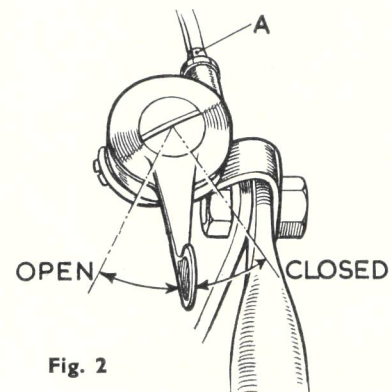
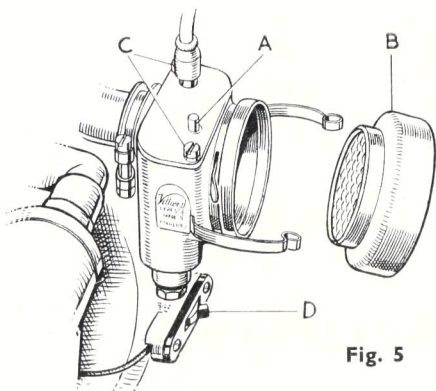
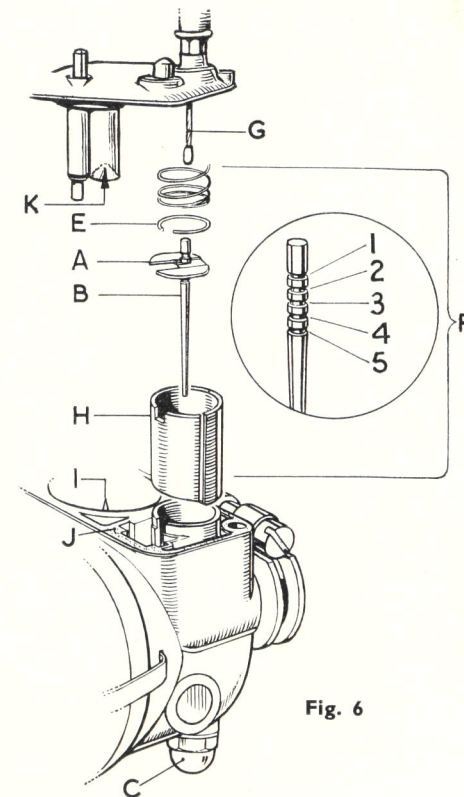
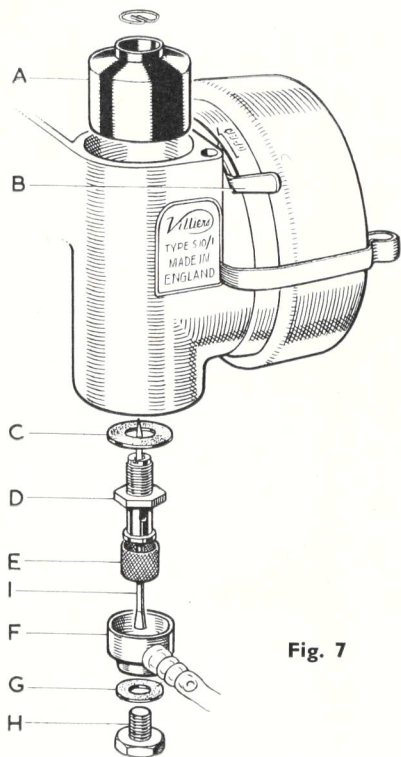

Fig. 2
Fig. 5
Fig. 6
Fig. 7
1. Switch on engine at (D Fig. 5).
2. Ensure that the petrol tank and engine oil sump have been filled with the correct grade of their respective fuels as referred to on page 19, and that the air filter (B, Fig. 5) is oil wetted. See air filter page 28.
4. Open throttle lever (Fig. 2) approximately to the halfway position. Close choke by depressing choke lever (B, Fig. 7). Only in cold conditions may it be necessary to depress the carburettor tickler (A, Fig. 5).
7. While the engine is warming up, gradually lift choke lever (B, Fig. 7) until fully open. Leave in this position for working and for starting while the engine is warm.
Switch off engine at (D, Fig. 5).
2. Petrol supply line or fuel filter (E, Fig. 7) blocked or water in the fuel.
4. Air Filter (B, Fig. 5) blocked by dirt or grass cuttings. (See Air Filter, page 28.)
Switch on engine (D, Fig. 5) and with high tension lead attached hold the plug against one of the cylinder head bolts and turn engine over by the recoil starter. If the plug fails to spark, clean the plug. Should the
The carburetter setting is normal when the groove plate (A, Fig. 6) is in notch No. 2 of the taper needle (B, Fig. 6). The mixture will be enriched by using notch No. 3, or weakened by using notch No. 1. A finer setting can be achieved by turning the groove plate, which is dished, upside down before refitting. With the raised portion of the groove plate uppermost the mixture is enriched and vice versa.
Undo two screws (C, Fig. 5) holding carburetter body cover in position and remove body cover, taking care not to damage the gasket. The throttle slide assembly (F, Fig. 6) will come away with the cover. Now close throttle lever, and by pressing throttle inner cable (G, Fig. 6) into the throttle slide (H, Fig. 6), the cable anchorage at the bottom of the throttle slide is moved clear of its seating and can be pushed across into the release channel. The cable and coil spring can now be withdrawn. Now place the palm of the hand over the opening in the throttle slide and carefully push the taper needle through until the groove plate retaining spring ring (E, Fig. 6) has been removed safely into the palm of the hand.
NOTE. Before removing taper needle completely, check the position of the groove plate (A, Fig. 6) in the needle, i.e., the notch in which it is located and also the way the groove plate has been fitted (one side is dished).
Reverse the above procedure to re-assemble the throttle slide assembly to the cover. To refit this into the carburetter body, ensure that the gasket is not damaged and is seated on the face of the cover. Then enter the throttle slide into its chamber making sure that the taper needle first engages the needle jet and also that the keyway in the slide engages the key in the chamber. Care should now be taken to ensure that the fuel needle (I, Fig. 6) in the float chamber locates in the tapered hole of the cover (K, Fig. 6) before tightening down the screws which secure the cover to the body. Failure to do so will bend the needle and flooding of the carburetter will result.
Undo the banjo union bolt (H, Fig. 7) located under the carburetter and remove fibre washer, banjo union (F, Fig. 7), and fuel gauze filter (E, Fig. 7).
cleaning after removing the domed nut (C, Fig. 6). Cleaning should be done by compressed air *and not by the use of wire* as this is likely to alter the size of hole and cause trouble with carburation.
AIR FILTER (B, Fig. 5)